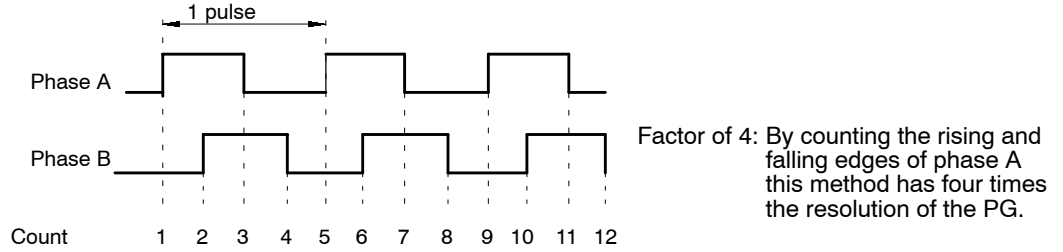

Fig 7.9 Pulse Count Factored by 4
- Set the Zero-servo Completion Width to four times the number of pulses from the PG (pulse generator or encoder), as shown in Figure 7.9.